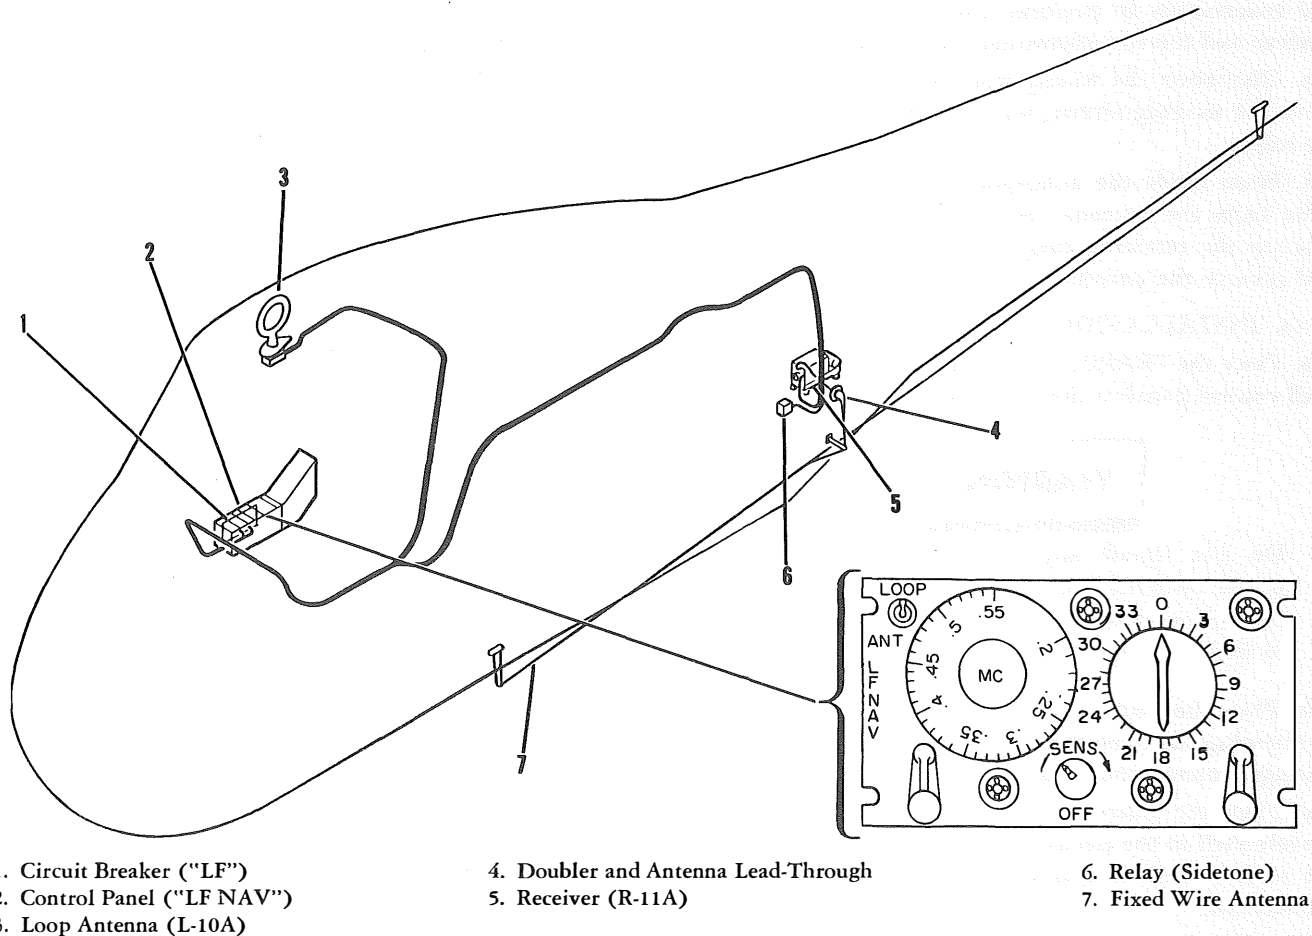

Figure 8-4. LF Range Receiver (A.R.C. Type 12, R-11A)
8-22. DESCRIPTION. (See figure 8-4.) The LF range receiver installation provides for reception of ground-to-air communication and navigation signals in the low frequency range of 190-550 kilocycles (0.19 - 0.55 megacycles). The receiver is continuously tunable over the range covered. Components of the installation are the "LF NAV" control panel (2, figure 8-4) on the console, the receiver (5) in the electronics compartment, a loop antenna (3) and a wire antenna (7). The loop antenna is used for direction finding and the wire antenna for communication. The receiver is disconnected from all three head-set circuits by the sidetone relay when any microphone switch is closed.